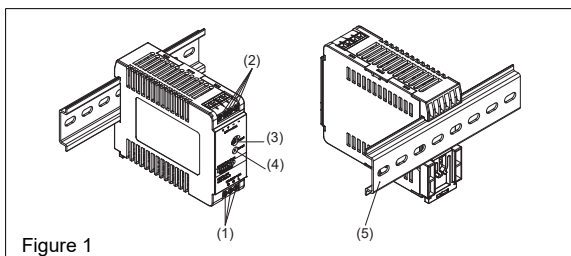
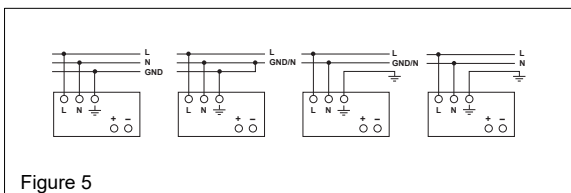

Figure 1
Figure 5
5.1. Input connection (Fig. 1, Fig. 5)
Use L, N and GND connections of input terminal connector (see Fig. 1 (1)) to establish the 100-240 VAC connection. Typical connection methods are shown in Figure 5.
5.2. Output connection (Fig. 1 (2))
Use the "+" and "-" screw connections to establish the 24VDC connection. The output provides 24VDC. The output voltage can be adjusted from 24 to 28 VDC on the potentiometer. The green LED DC OK displays correct function of the output (Fig. 1 (4)). The device has a short circuit and overload protection and an overvoltage protection limited to 30-34.8 VDC.